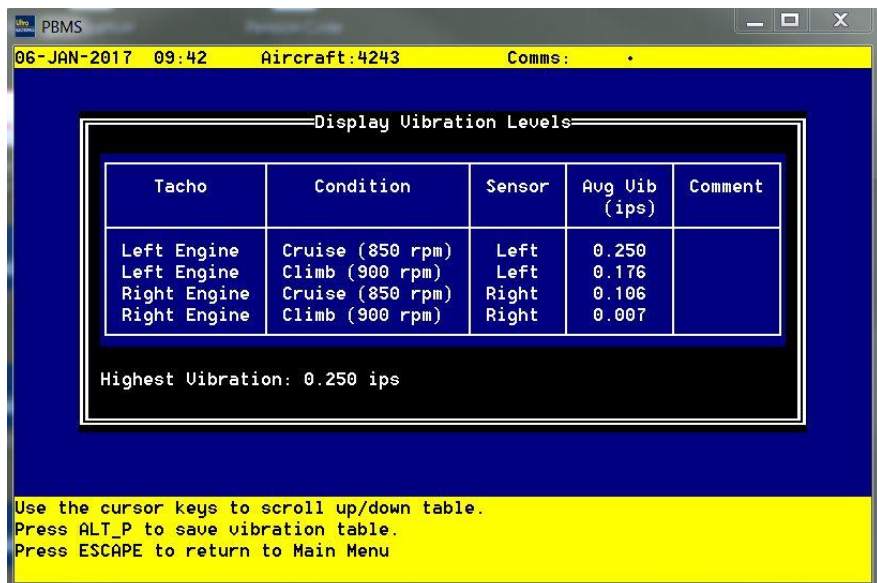

Figure 2-7 Display Vibration Levels Screen
- (1) Select 'Display Vibration Levels' from the 'Main Menu' and press <ENTER>. The PBMS Terminal shows the average vibration level for each sensor, on each engine, for each flight condition (Ref Figure 2-7). Use the cursor keys if required to scroll up and down the table. The maximum measured vibration level is also displayed.